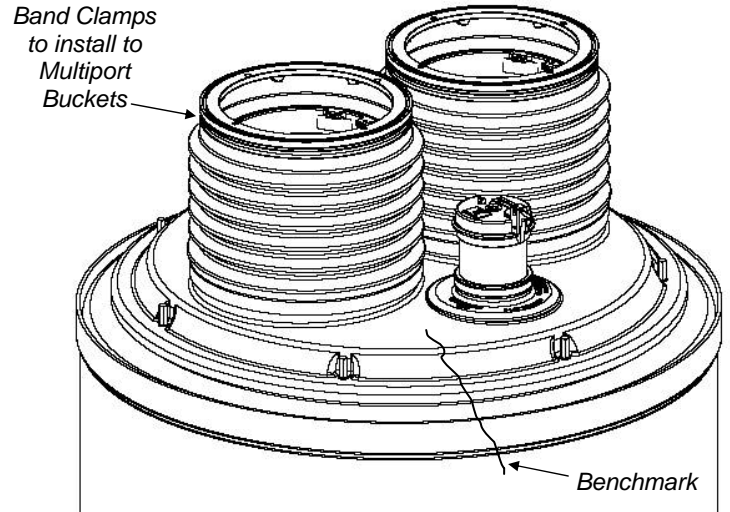

Figure 3
5. Use the small band clamps to connect the top of the shroud boots to the machined diameter on the outside of the bucket ring. Tighten the band clamps to 60 in-lbs. **See Figure 3.**